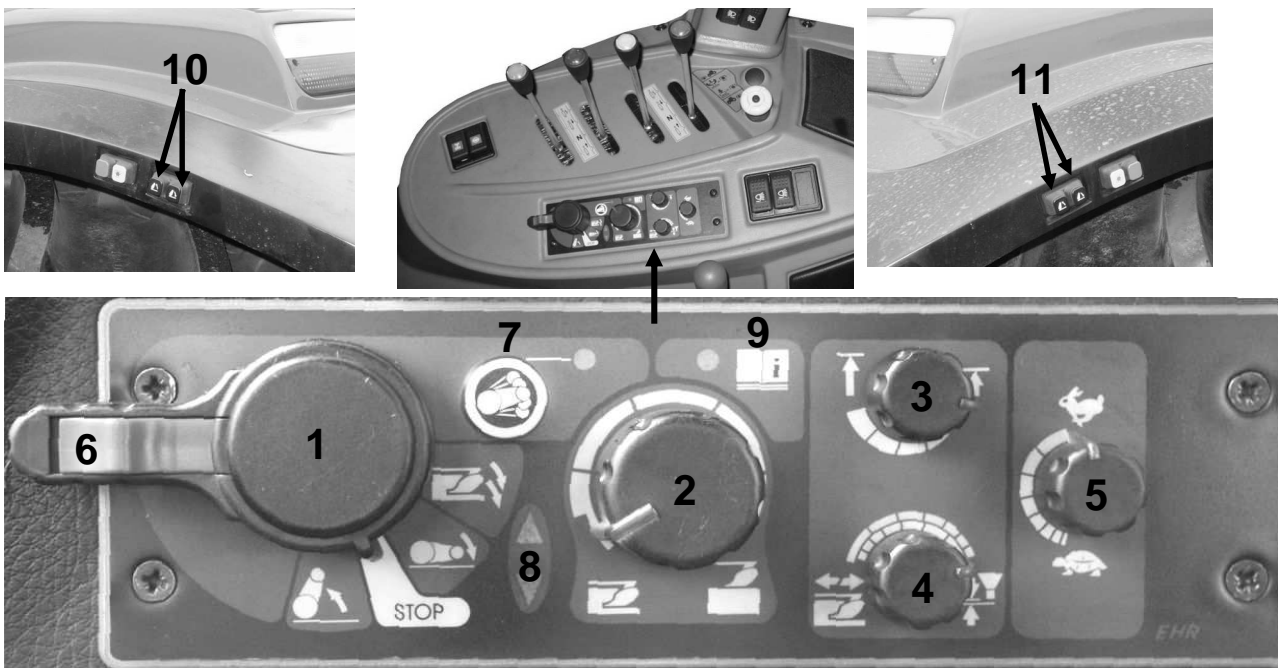

Figure 5-20 EHR electrohydraulic control system panel.
Control of the rear three point lift with the electro-hydraulic system is with the aid of the control pulpit (Figure 5-20) located on the right side of the seat and additional arm lift and lower buttons on the rear of the mudguards on right and left sides of tractor (Figure 5-20, item 10) (they are used during linking machines and agricultural implements).
- using knob **4** (Figure 5-20) - depending on the type of fieldwork, determine the means of implement adjustment (positional, power or mixed);
ATTENTION: Do NOT use tractor in the event of hydraulic pump malfunction, if the light 8 (Figure 5-20) is not extinguished after lifting implement.
- lever 1 (Figure 5-20) set in "lifting" position (then implement is raised to the extreme upper setting) and button 6 to lock implement in transport position;
ATTENTION: Vibration suppression function acts only by setting of lever 1 (Figure 5-20) in "lifting" setting in transport position with button 6. During fieldwork (ploughing, cultivation etc.) vibration suppression function should be switched off.